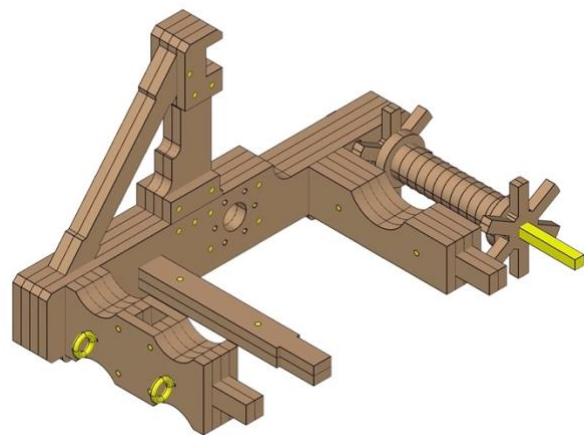

Fig. 36
- *Fig. 36* shows the completed process.